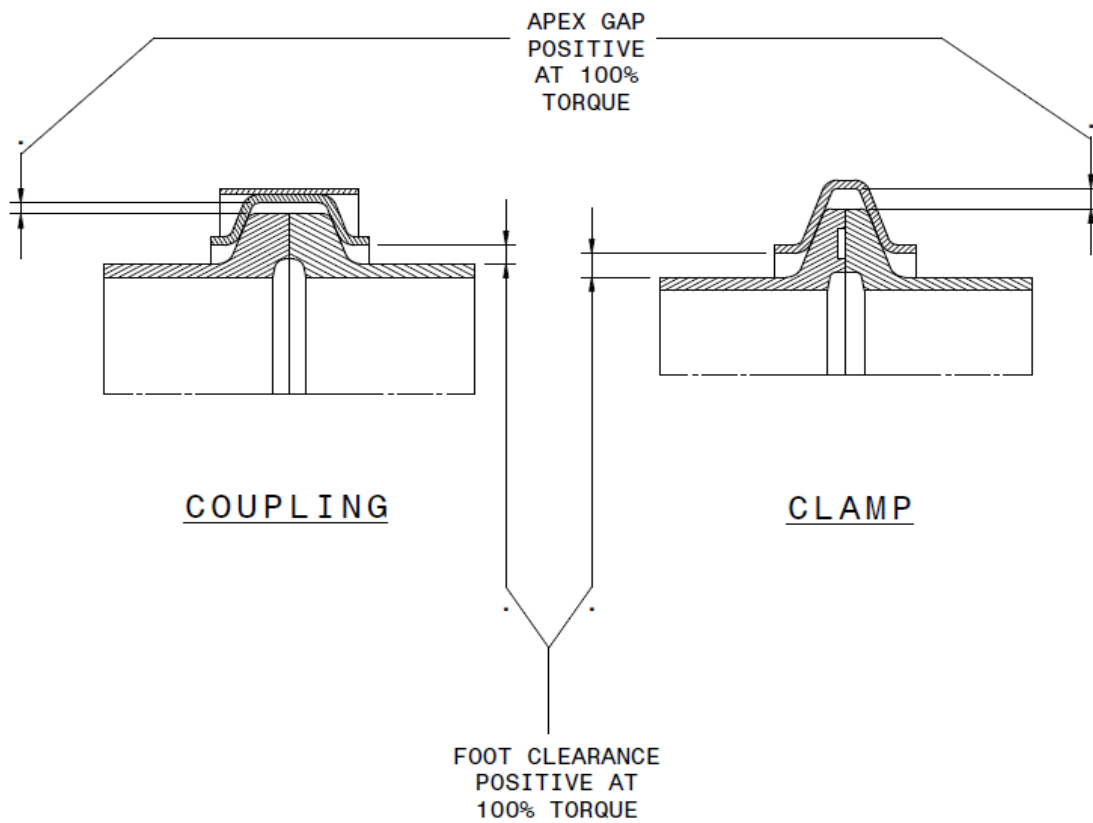

Figure 11
- k. Check the coupling V-retainer and clamp V-band apex gap and foot clearances. At full torque, a positive clearance must be maintained throughout to prevent the coupling/clamp from bottoming out on the flanges before the required loading has been achieved. Refer to Figure 11.
- o. After a coupling/clamp is installed/reinstalled and fully torqued, check the coupling V-retainer and clamp V-band apex gap and foot clearances. A positive clearance must be maintained throughout to prevent the coupling/clamp bottoming out on the flanges. If there is no clearance in either location, a new coupling/clamp should be installed prior to further flight. Refer to Figure 11.
- h. With the coupling/clamp properly torqued, visually inspect looking for any Unsatisfactory Condition as defined in Section 5. Refer to Figures 11, 14, 16 & 17.
- j. Lack of positive clearance at either the apex gap or foot clearance locations at full torque. Refer to Figure 11.